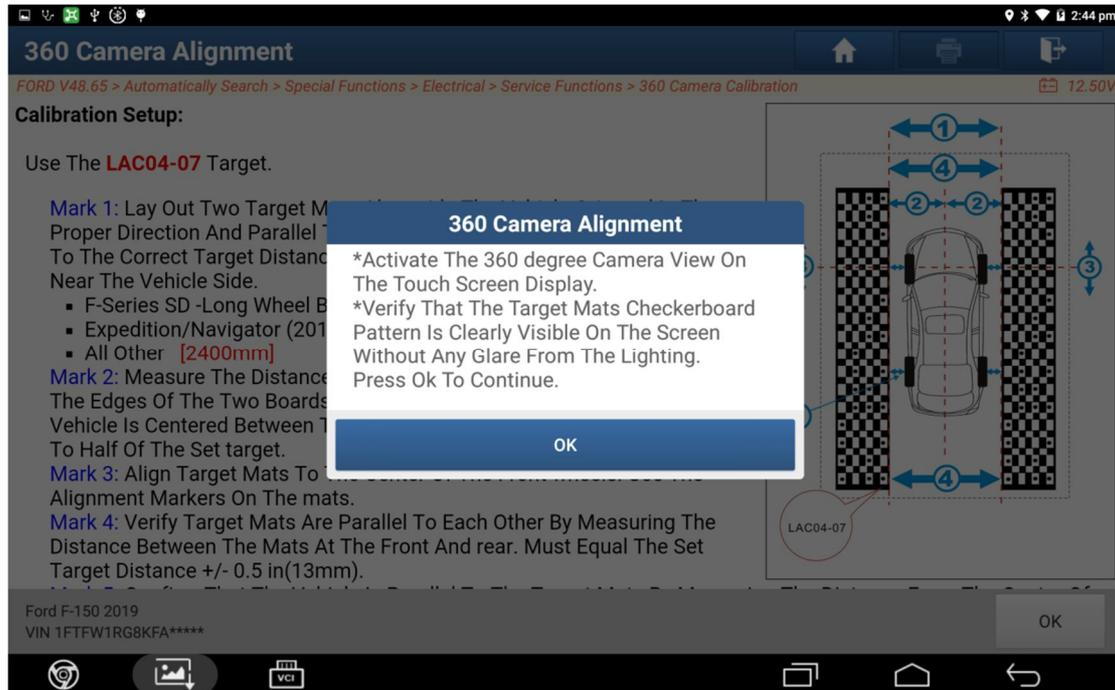

Figure 11
10. Prompt to turn on the camera (Figure 11).